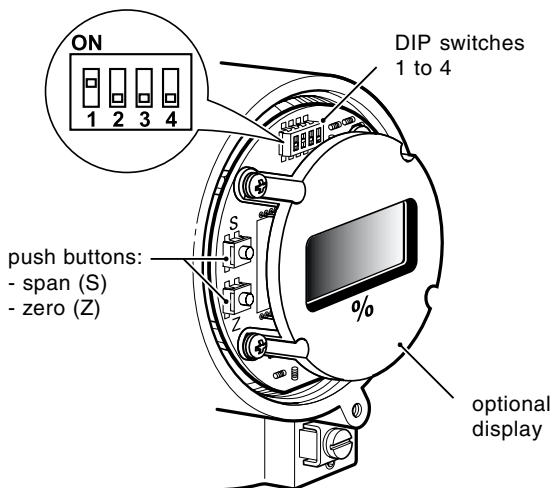

Figure 4-1 Location of DIP switches and push buttons
4.2 Manual Configuration Facilities (Figure 4-1)